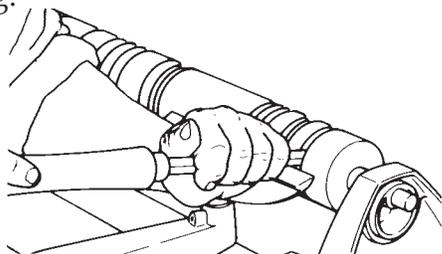

Figure D-45
- b. Turn on the machine and increase the speed slightly. With a parting tool, cut grooves in the stock. See Figure D-45. Use calipers to check the diameters.